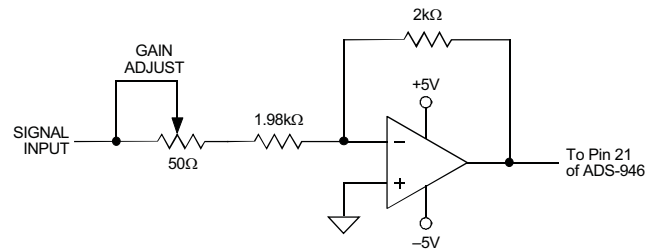

Figure 2. Optional ADS-947 Gain Adjust Calibration Circuit
2. The ADS-947 achieves its specified accuracies without the need for external calibration. If required, the device's small initial offset and gain errors can be reduced to zero using the adjustment circuitry shown in Figures 2 and 3. When using this circuitry, or any similar offset and gain calibration hardware, make adjustments following warmup. To avoid interaction, always adjust offset before gain.
Any offset and/or gain calibration procedures should not be implemented until devices are fully warmed up. To avoid interaction, offset must be adjusted before gain. The ranges of adjustment for the circuits in Figures 2 and 3 are guaranteed to compensate for the ADS-947's initial accuracy errors and may not be able to compensate for additional system errors.